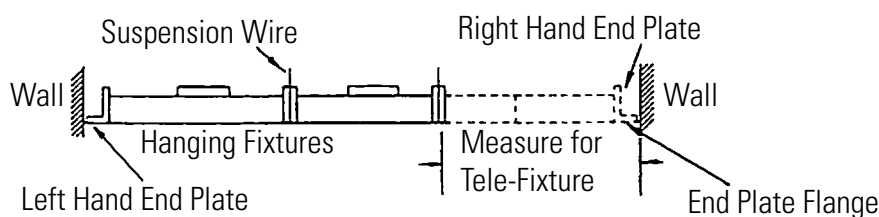

Figure 10
1. Measure the distance from the wall to the last hanging fixture. (Fig. 10)